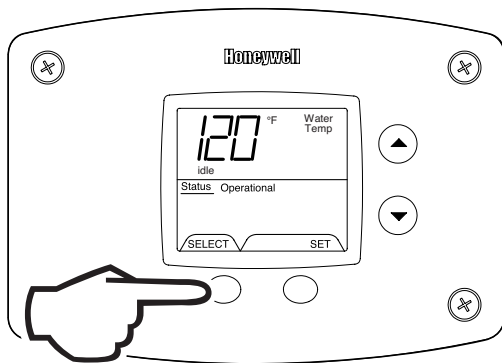

Fig. 56
1. In Service Mode, Press the 'Select' button until 'Water Temp' is displayed in the upper right section of the water heater display. For water heaters using two temperature sensors in the tank, this will be the average reading between the two sensors. For water heaters using a single sensor, this is the reading for the sensor (Fig. 56).